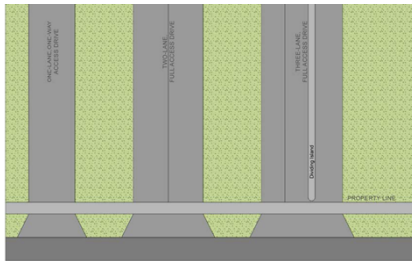

Fig. 8: One-Lane, Two-Lane & Three-Lane Access Drive Detail
- (1) *On the same parcel.* The minimum distance between one-way driveways at the curbline shall be no less than 15 feet. Minimum distance between two-way drives at the curbline shall be 200 feet from center.
- (2) *On adjoining parcels.* Where two adjoining driveways abut, the maximum opening at the curb shall be the maximum for a single driveway, as listed in subsection (d) of this section. Both parcels must share the curb opening.
- (d) *Driveway width.* Driveway sizes are regulated at the property/right-of-way line and the curb/road pavement line as follows (See Figure 8: Three-Lane, Full Access Drive Detail):